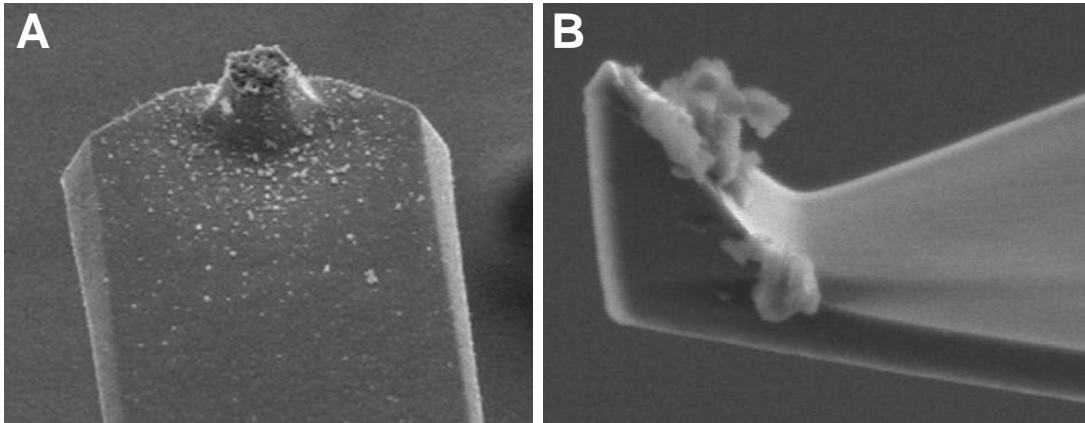

Figure 5.7: SEM images of compromised tips: A) broken tip, will shift f_0 to higher value; B) debris on tip will add mass, shift f_0 to lower value.
- Figure 5.7 shows two cases in which a thermal tune can tell you what has happened if the resonant frequency changes throughout an imaging experiment. If the tip breaks (lowering mass, increasing f_0 ; Figure 5.7A), or if there is an increase in mass on the cantilever/ tip from adhered debris (lowering f_0 ; Figure 5.7B).